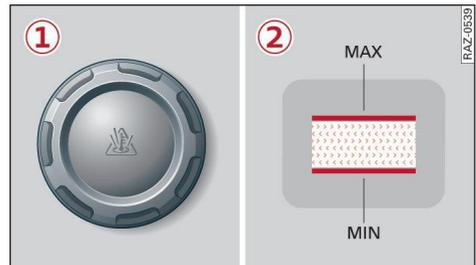

Fig. 140 Engine compartment – coolant expansion tank (example): ① Cap, ② Marks
- ▶ Check the coolant level in the expansion tank ⇒ *page 208, Fig. 136* using the external markings ② ⇒ *Fig. 140* as a guide. When the engine ▶
- ▶ Carefully unscrew the cap ① ⇒ *Fig. 140* anti-clockwise ⇒ ⚠.
- ▶ Add coolant in the correct concentration ⇒ *page 212* up to the top mark ② ⇒ *Fig. 140*.